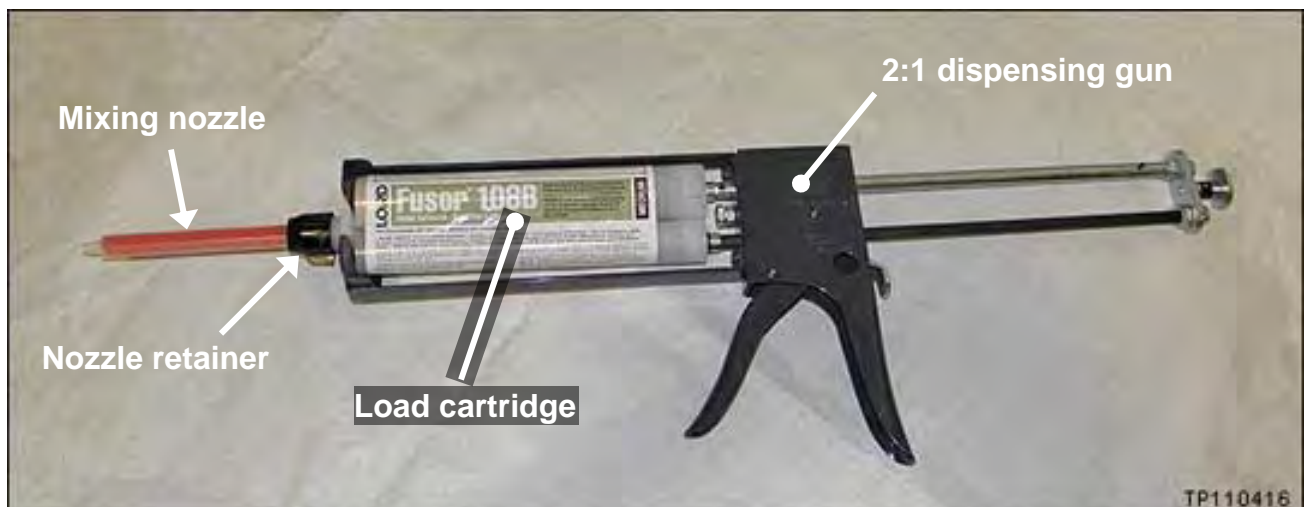

Figure RB21
25. Prepare for application of LORD Fusor[®] 108B (P/N 999MP – 108BP) structural adhesive (see Figure RB21 and RB22).
- Make sure the nozzle retainer is installed (see Figure RB21).